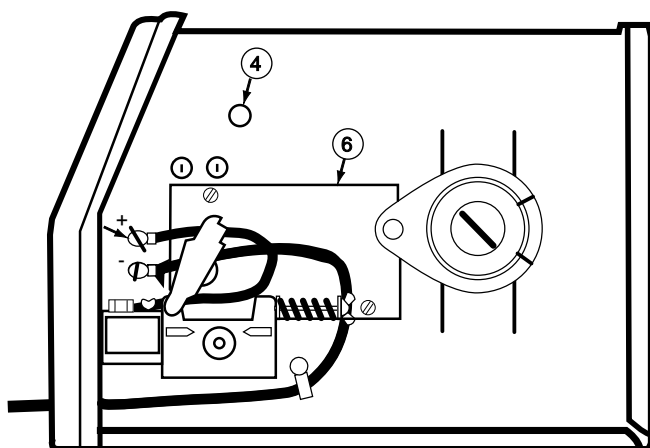

FIGURE B.1b
4. Circuit Breaker — Protects machine from damage if maximum output is exceeded. Button will extend out when tripped (Manual reset) Refer to Figure B.1b.